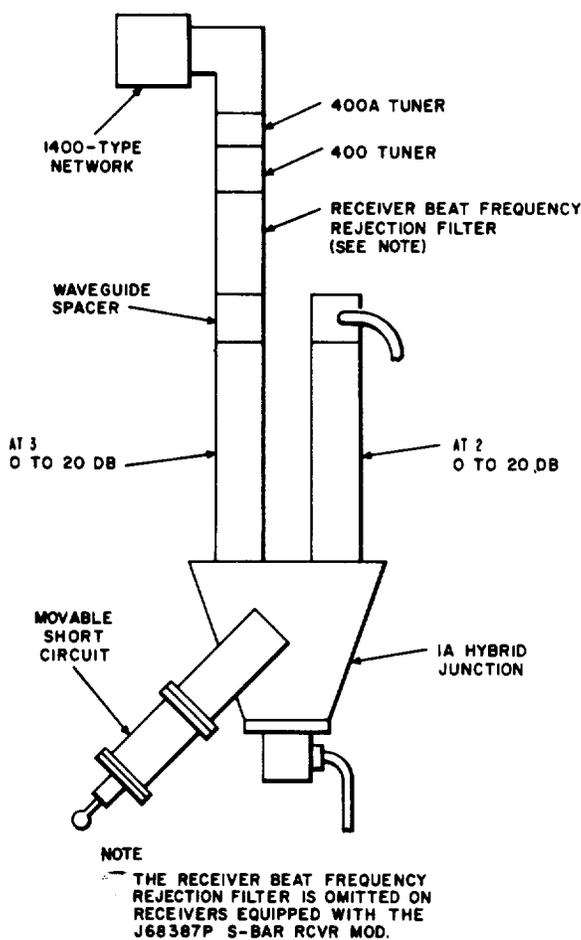

Fig. 2—Test Setup and Receiver Waveguide
2.03 It is not always possible to obtain a full system turndown; in such cases, a turndown on any one channel will do except as noted in 1.05. If the antenna system under test is connected to the receiver bays, AT3 can be connected directly to the receiver beat frequency rejection filter. This is done by removing the receiver-converter and IF preamplifier. (See Fig. 2.) The test frequency must be that of the receiver removed.